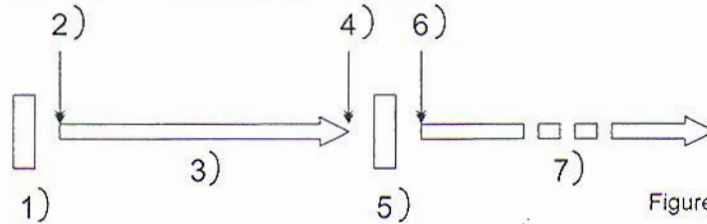

Figure 6-1
- * Figure 6-1 show the relationship between the play and pause.